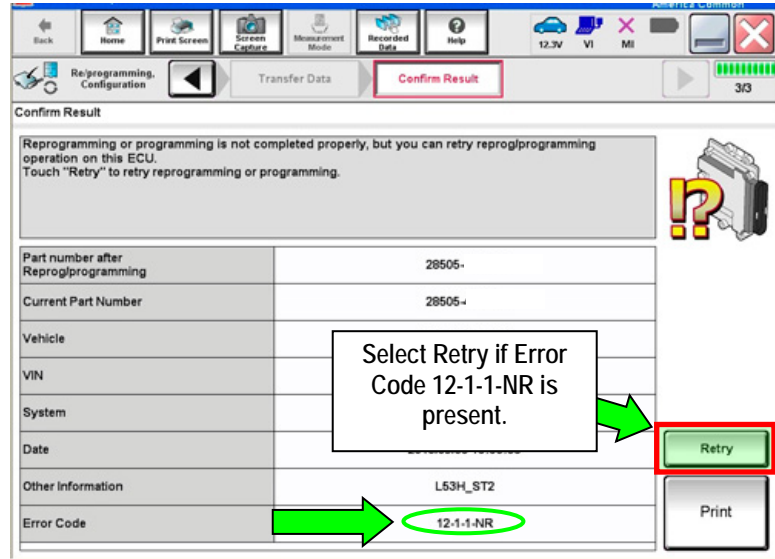

Figure 16
- If the progress bar freezes at 90% of a complete transfer to the plus VI and error code "12-1-1NR" is displayed as shown in Figure 16 on the next page, **turn the ignition OFF, then ON**, and then refer to **Control Unit Recovery** on the next page.
If reprogramming does not complete and the “!?” icon displays as shown in Figure 16: